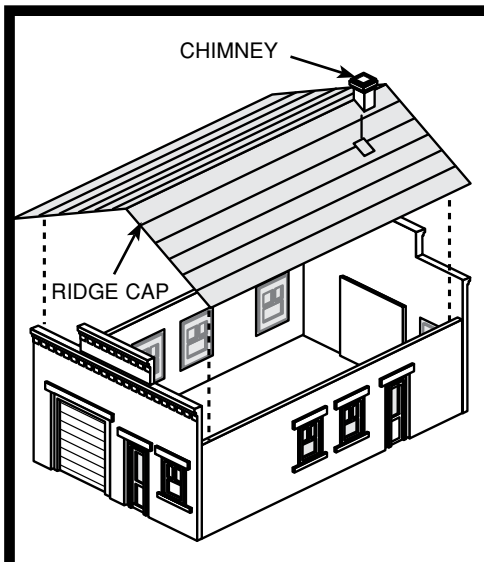

FIG. 2
4. Fit roof sections over walls as shown in Fig. 2. Peak of roof should fit below top of front and back wall facades. Roof stops should fit inside walls. Glue roof and walls together where they meet and roof sections at the peak.
6. A notch will need to be cut in one or two of the roof strips to accommodate the base of the chimney. See Fig. 2 and box photo for placement.
Insert the Roof from the underside of building, gluing it to the bottom of the chimney back(s). Using the included Roof Support Material, cut support strips. Supports should be shorter than the width of the walls. Glue Supports to set flush on each wall and underside of Roof (where Roof and Wall meet). (Fig. 2) **NOTE:** If no Roof Support Material is included, glue Roof to the bottom of the Chimney Backs.